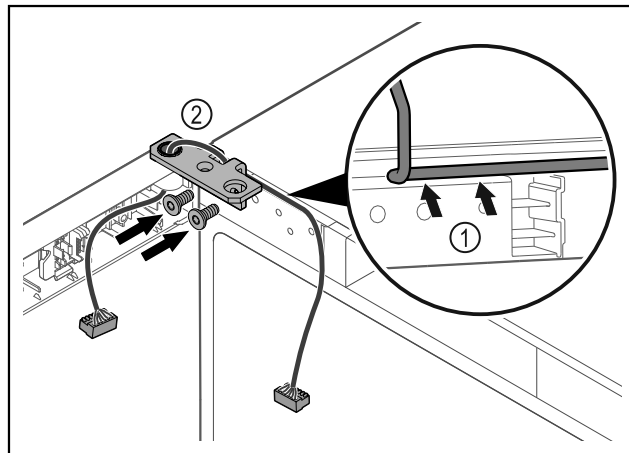

Fig. 41
- Feed the cable through the recess in the hinge and lay it carefully Fig. 41 (1).
- Screw on the hinge Fig. 41 (2).